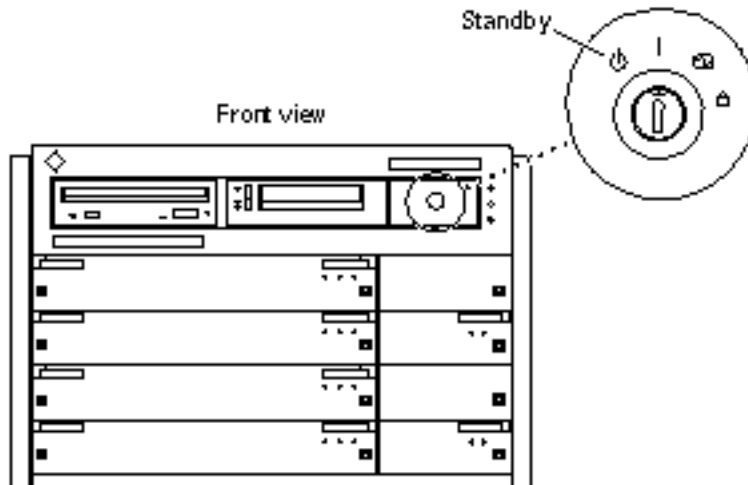

Figure 2-3 Key Switch Positions
1. Insert the key provided with your system into the front panel key switch. Turn it to the Standby position (fully counterclockwise, Figure 2-3).